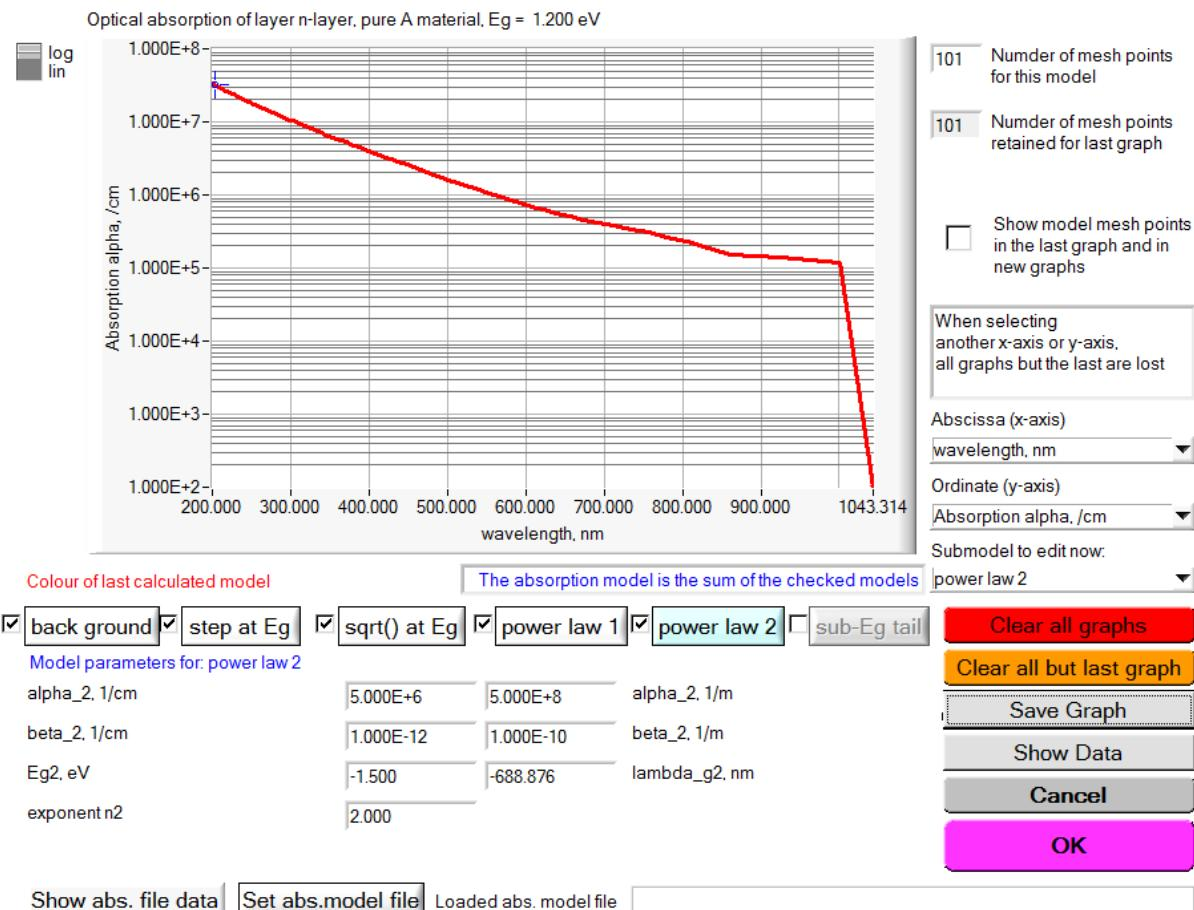

Figure 3.15 The Absorption Model Panel of SCAPS $\geq 3.3.07$.
The optical absorption block in the Layer Properties Panel has been changed in the new SCAPS $\geq 3.3.07$, see Figure 3.14. When the optical absorption of a material/layer is set to ‘from model’, the ‘set absorption model’ button is active; upon clicking, the Absorption Model Panel opens (Figure 3.15). This panel is operating much like the grading panel and the (spectrum or generation) model panel, that are perhaps familiar to the SCAPS user.
- The number of mesh points (λ values or hv values) in the top right part of the panel of Figure 3.15, is only relevant for this panel. In calculations, SCAPS decides the λ -values at which to evaluate $\alpha(\lambda)$, the generation $G(x, \lambda), \dots$ based on the calculation settings ordered by the user: e.g. λ values in the spectrum file, λ values at which $QE(\lambda)$ are ordered,...